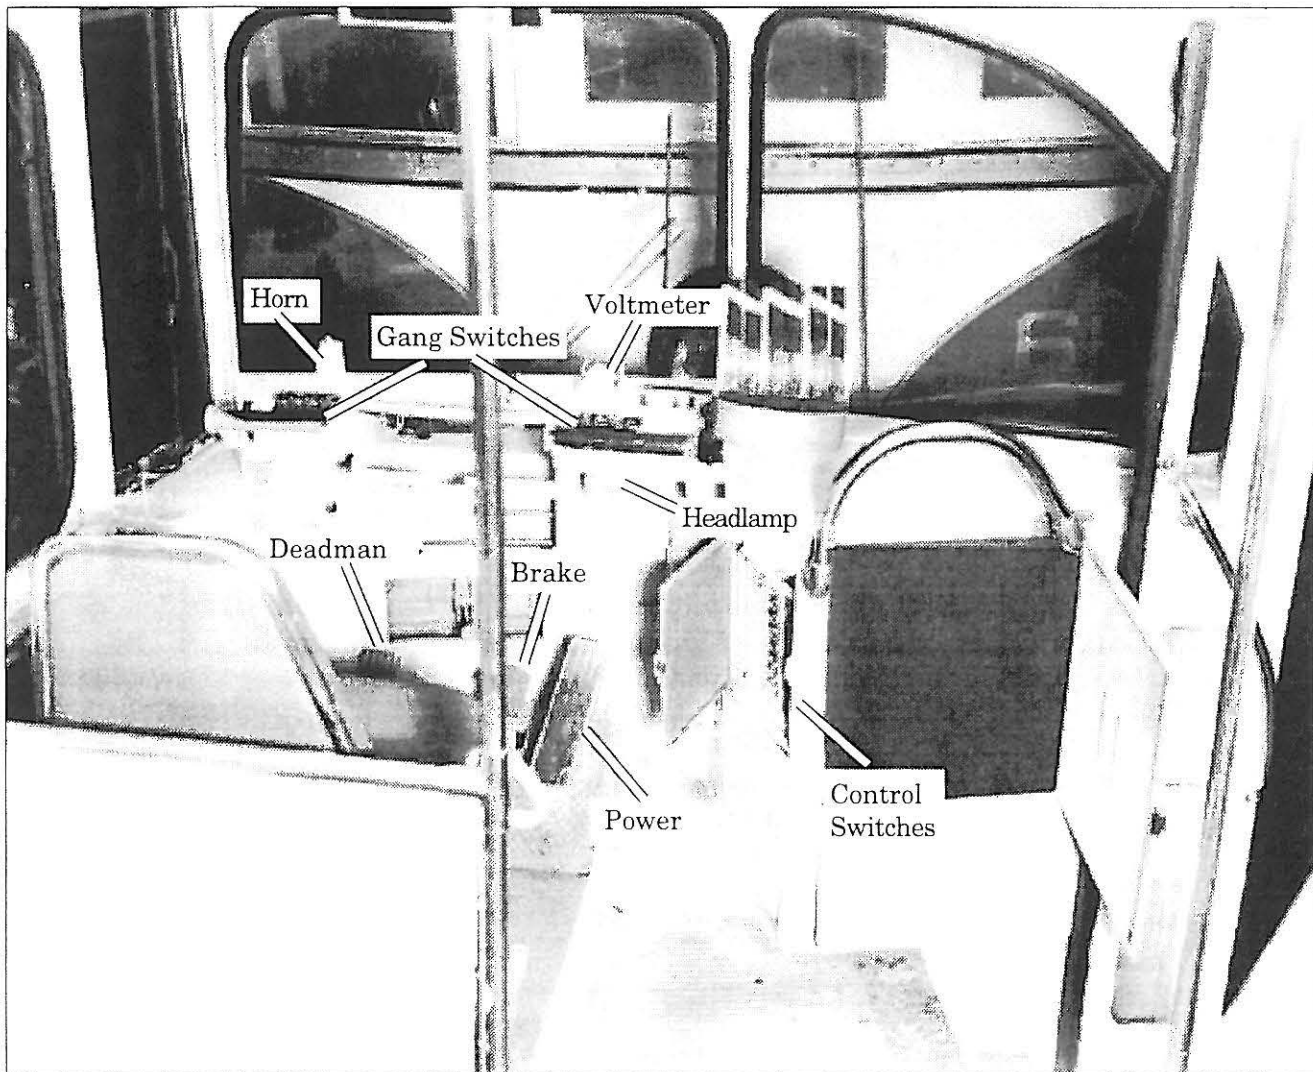

Figure 21. Photograph of Pittsburgh Railways Co. 1711 showing front end controls.
4. Walk to the front of the car. Turn on the interior lights (gang switch) and move the front door switches **on**. Open the front breaker panel door near the power pedal (see figures 21 & 22) and turn **on** all the breakers except **Aux Heat** and
2. Close all doors using the Gang Switches (figure 21). Walk to the rear of the car.
4. Close all the doors using the Gang Switches (see figure 21). Verify that the “Cab Heat” gang switch is away from the windshield. Walk to the rear of the car.